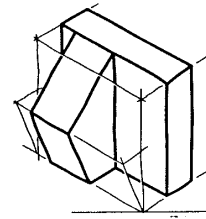

FIGURE 2.62 ■ Step 4, complete the sketch and darken all outlines.
Step 4. Sketch the nonisometric lines, as shown in Figure 2.62, by connecting the points established in step 3. Also darken all outlines.